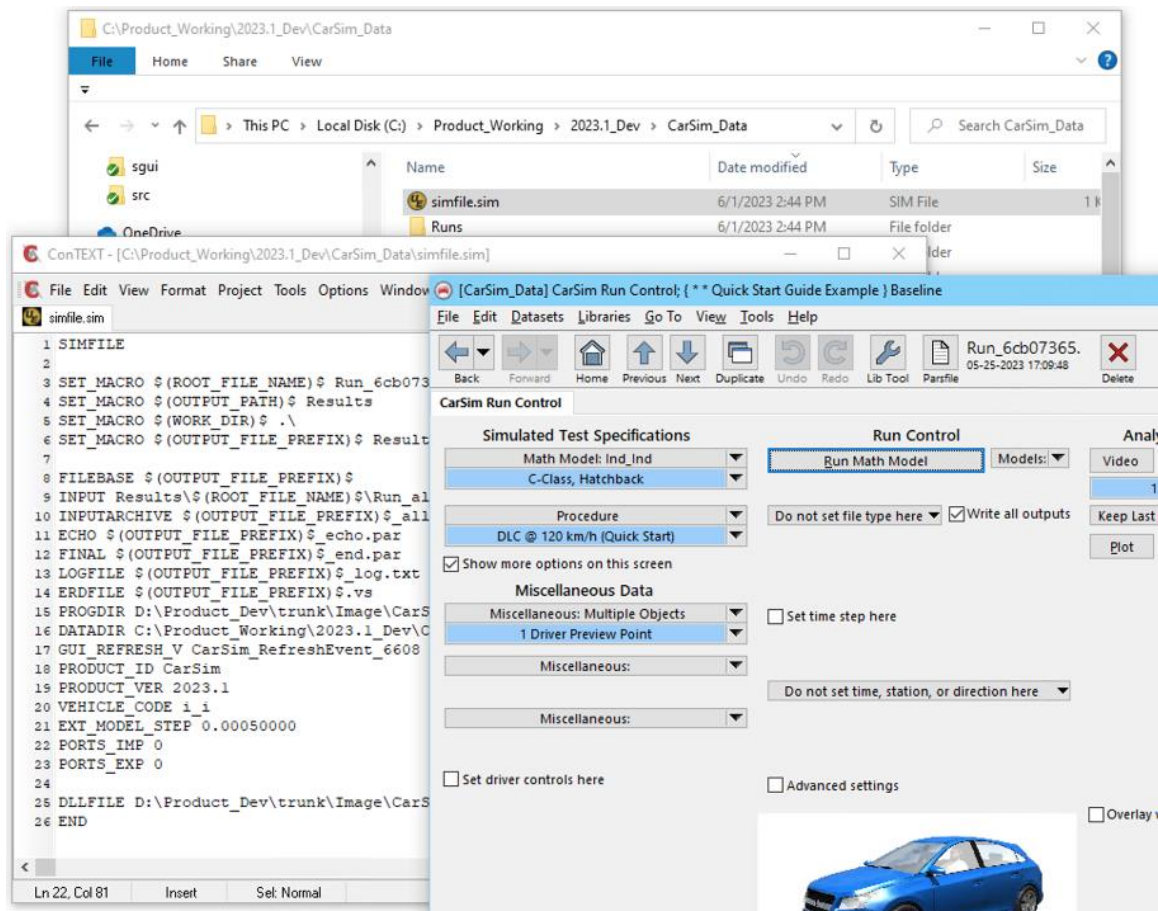
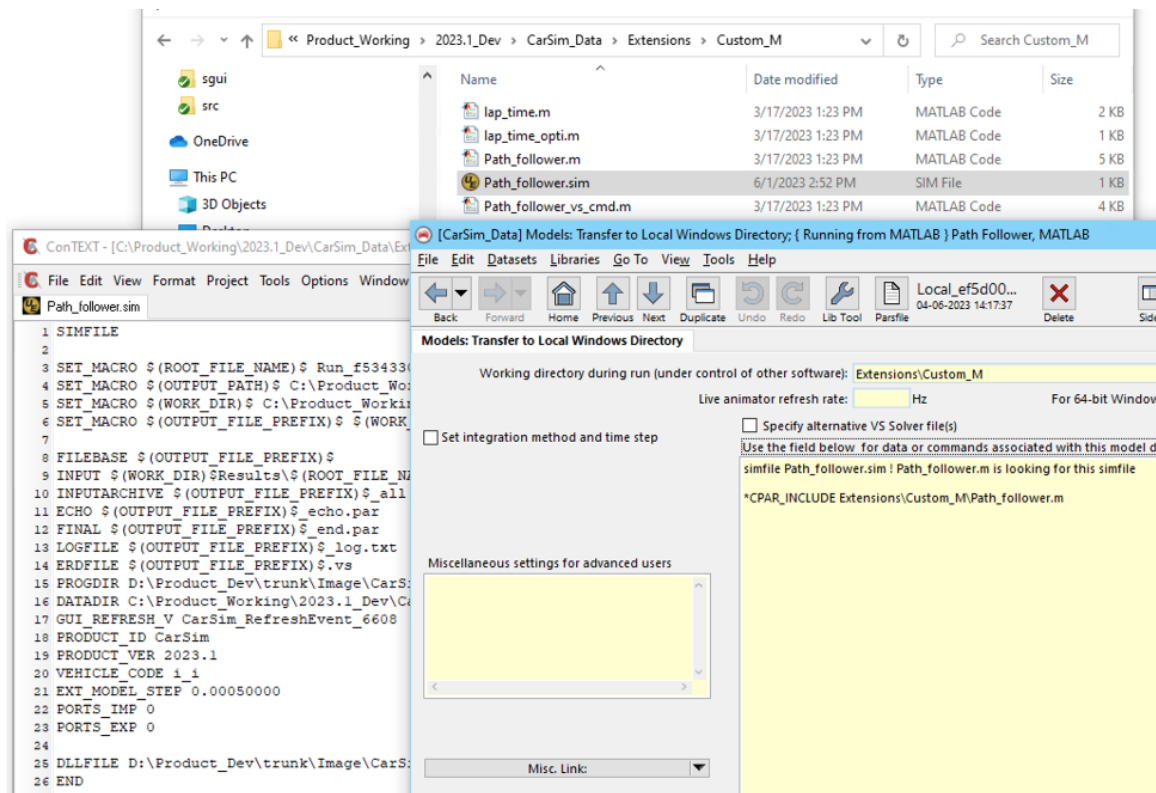

Figure 32. The VS Browser automatically writes a simfile to run with a VS Math Model.
Figure 33. Setting a custom name for the simfile.
1. If this is the first run made from a **Run Control** dataset, the VS Browser creates the new Results folder ② that will contain files read and written by a VS Math Model.
- a. It collects information from all linked datasets, located in the many folders in the database, and creates a single expanded Parsfile named Run_all.par with the information ④. This file is written into the folder created in step 1.
- b. It also writes a simulation control file (Simfile) in the current working directory (Figure 32). Typically, this is the root folder of the database. The default name of the simfile is simfile.sim. The simfile contains pathname of the input file created in step 2a, the names of output files generated by the VS Math Model, and other information.
Note As shown in Figure 32, the default name of the simfile is simfile.sim. The name can be changed by using a different name to simfile. For example, Figure 33 shows how the simfile is named Path_follower.sim for an example run from MATLAB in a different working directory.